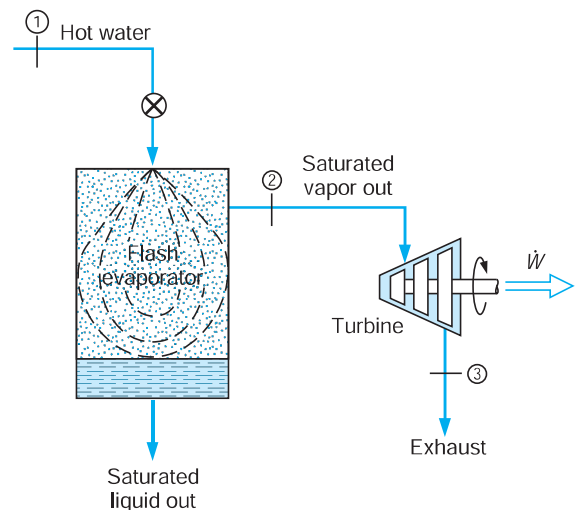

FIGURE P6.110
- 6.110** A proposal is made to use a geothermal supply of hot water to operate a steam turbine, as shown in Fig. P6.110. The high-pressure water at 1.5 MPa, 180°C is throttled into a flash evaporator chamber, which forms liquid and vapor at a lower pressure of 400 kPa. The liquid is discarded, while the saturated vapor feeds the turbine and exits at 10 kPa with a 90% quality. If the turbine should produce 1 MW, find the required mass flow rate of hot geothermal water in kilograms per hour.